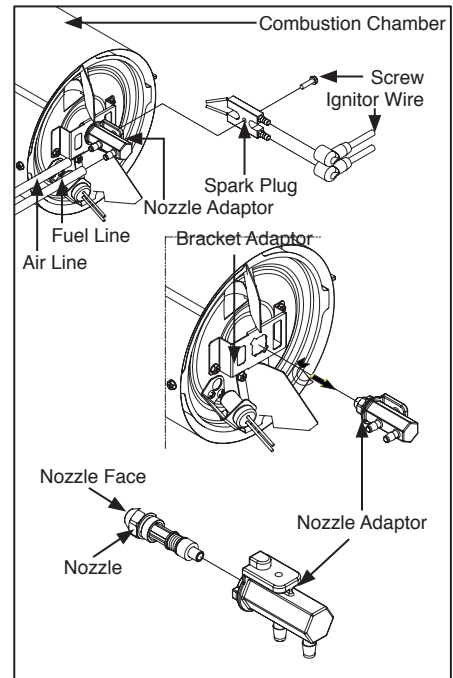

Figure 14. Nozzle Replacement
- Turn nozzle adaptor 1/9 turn (40°) to counter clock wise and pull toward motor to remove. (See Figure 14)